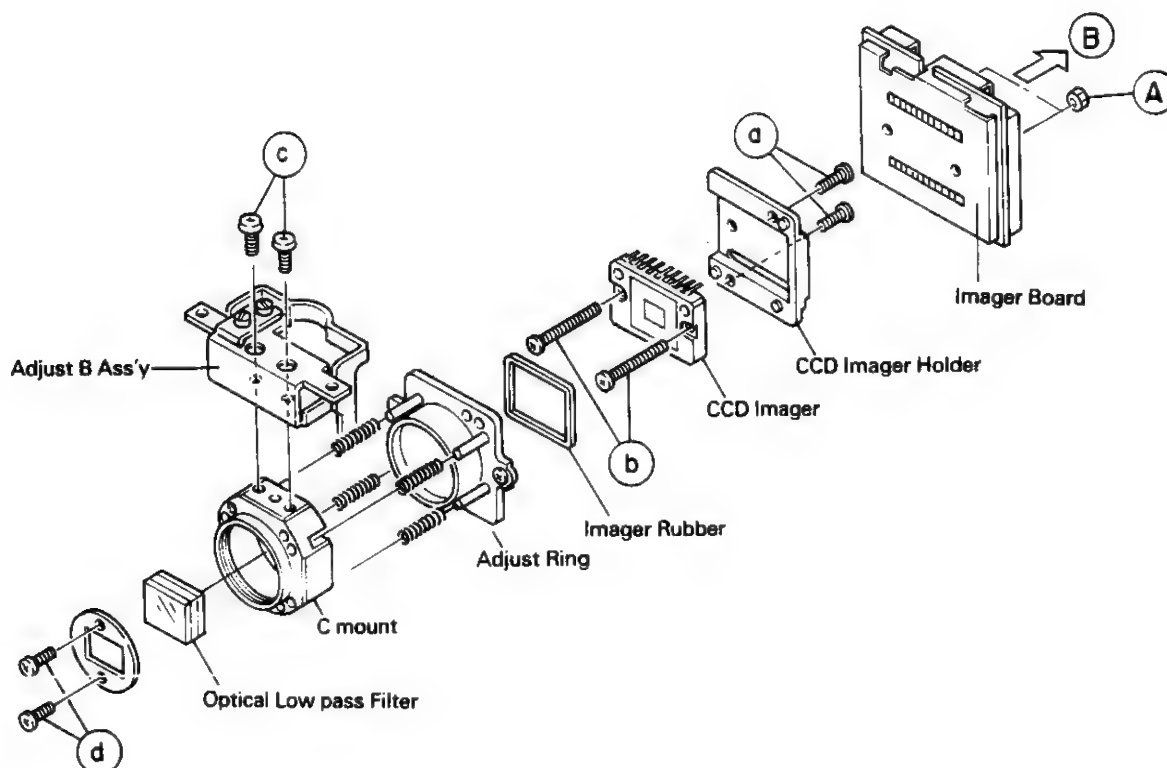

Fig. 3
* Remove 2 nuts shown in Fig. 3 (A).
(1) Remove the imager PC board shown in Fig. 3 by pulling it in the direction of (B).
(2) Remove the two screws (a) shown in Fig. 3 to remove the CCD imager holder and the CCD imager.
(3) Remove the two screws (b) shown in Fig. 3, to remove the CCD imager.
(4) Remove two screws (c) shown in Fig. 3 so as to disassemble the CCD imager unit into the adjust B ass'y, C mount and adjust ring.
Remove the two screws (d) shown in Fig. 3, and the optical low-pass filter can be removed.